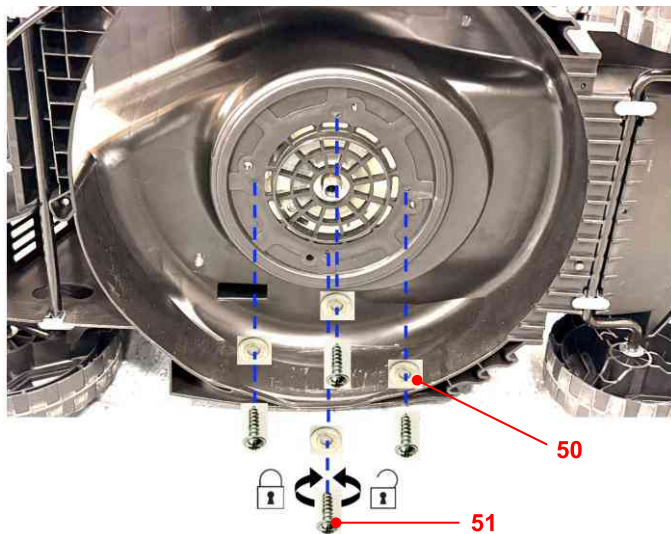

Fig. 6
4. Remove the 4 self-tapping screws ST4.8*19-C (51) with a Philips #2 screwdriver and flat washers (50) (Fig. 6). Turn the product back carefully.